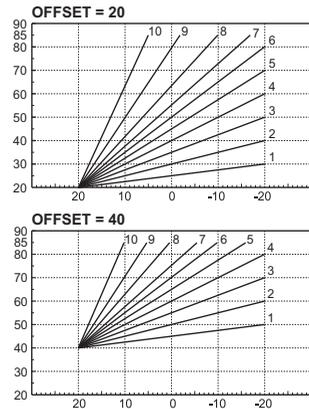

fig. 25- Example of compensation parallel curve offset
**Offset:** Access this sub-menu to access parallel offset of the curves using the buttons  $+$  and  $-$  **DHW**. Refer to fig. 25 for the characteristics.